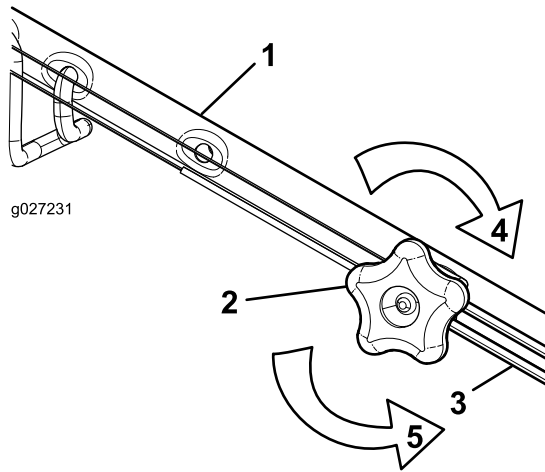

Figure 25
1. Turn the adjustment knob counterclockwise to loosen the cable adjustment (Figure 25).
2. Adjust the tension on the cable (Figure 25) by pulling it back or pushing it forward and holding that position.